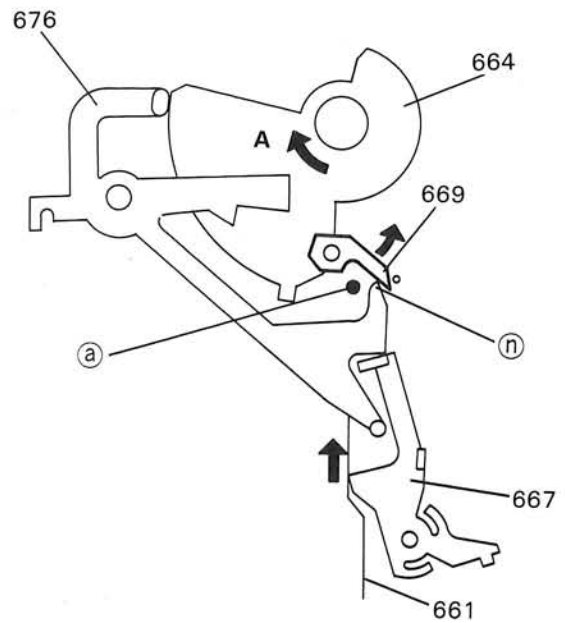

Fig. 13
At this time, the discrimination lever (667) is positioned as shown in Fig. 13. Thus, the cam (669) on the tonearm feed cam (664) hits against the protrusion (n) of the auto-in cam (676) and the boss (a) on the tonearm feed (658) does not hit, so that the tonearm does not move and stays at the return position.